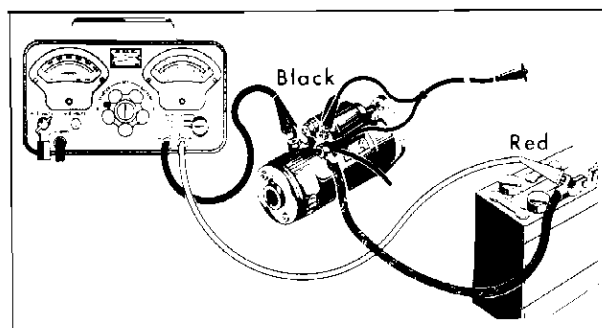

Fig. 11-4 Battery Cable to Starter Test
3. Connect solenoid starter "clicker" switch and test leads as shown in Fig. 11-4.